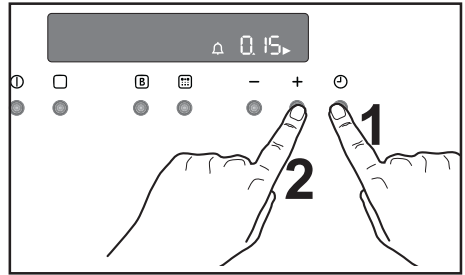

Fig. 7
1. Press button  to select the Minute Minder function. The relevant  symbol will flash and the control panel will display "0.00". (Fig. 7)